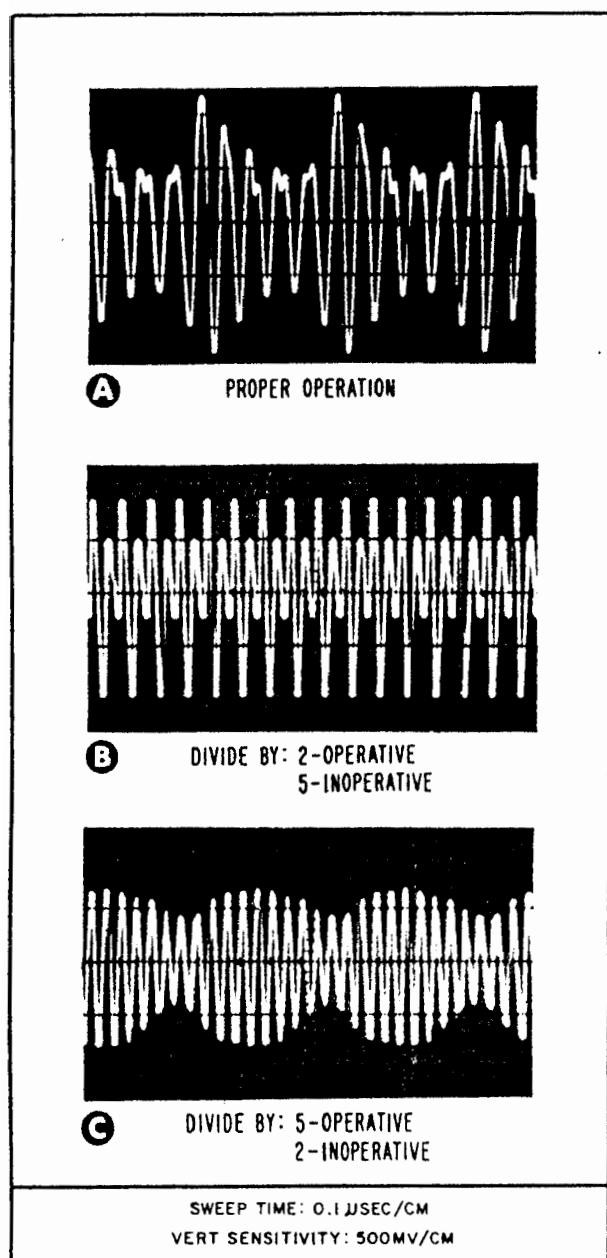

Figure 5-6. Divider Waveforms
e. Adjust L68 until oscilloscope indicates that signal is being divided by two (see Figure 5-6).